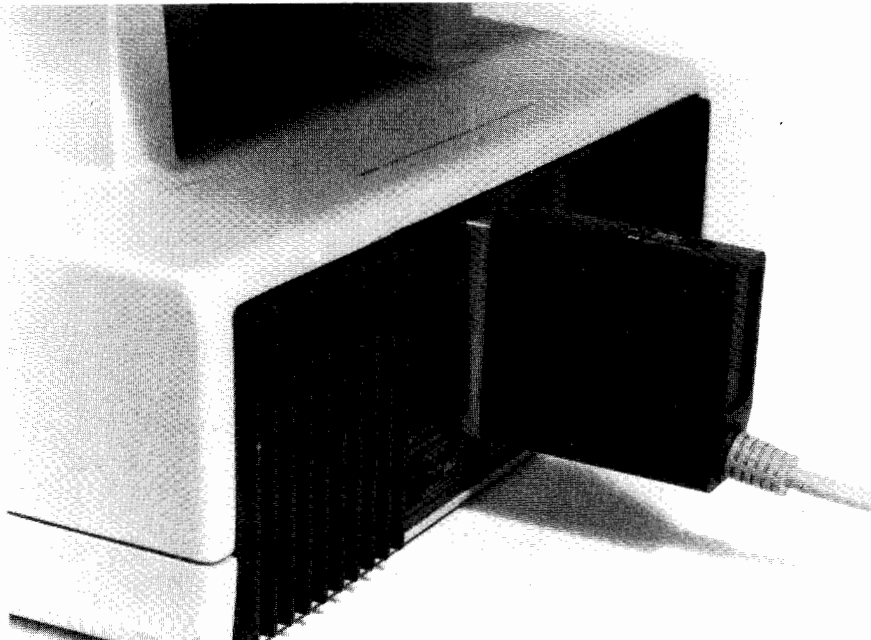

Figure 2-2. Inserting the Interface Housing into the 9845 I/O Backplane.
- Insert the interface housing into any of the four I/O slots in the back of the computer. See Figure 2-2.